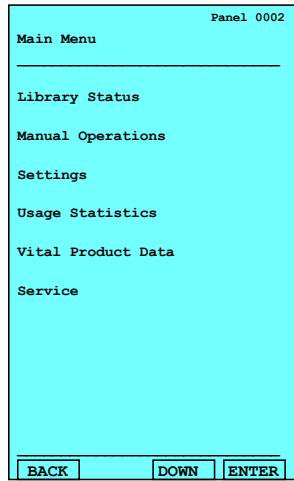

Figure 2-39 IBM TS3500 operator panel: Main Menu
1. From the library's operator panel Activity window, click **Menu**. The Main Menu displays as shown in Figure 2-39.